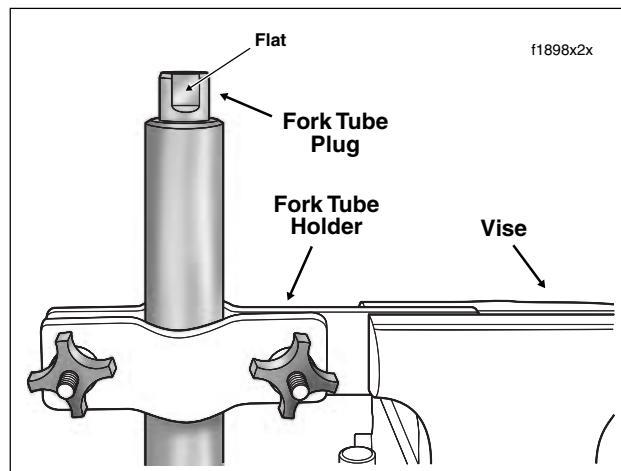

Figure 2-72. Install Fork Tube Into Fork Holder
4. Using flat, unthread fork tube plug from fork tube. See Figure 2-72.
- b. With the fork cap bolt topside, clamp fork tube between rubber pads on inboard side of tool. Tighten knobs until fork tube is securely held. See Figure 2-72.